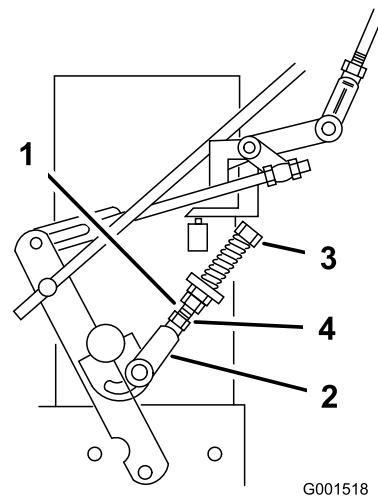

Figure 37
9. If the wheel turns while holding the drive lever in neutral, the neutral control linkages need to be adjusted (Figure 37). If wheel stops then go to step 12.
10. Loosen the nut against the neutral control linkage yoke (Figure 37).
11. Adjust the neutral control linkage until the respective drive wheel stops while the drive lever is pulled against the neutral spring (Neutral position) (Figure 37).
12. Turn the adjusting bolt approximately 1/4 turn clockwise if the wheel is turning in reverse or turn the bolt approximately 1/4 turn counter-clockwise if the wheel is turning forward (Figure 37).